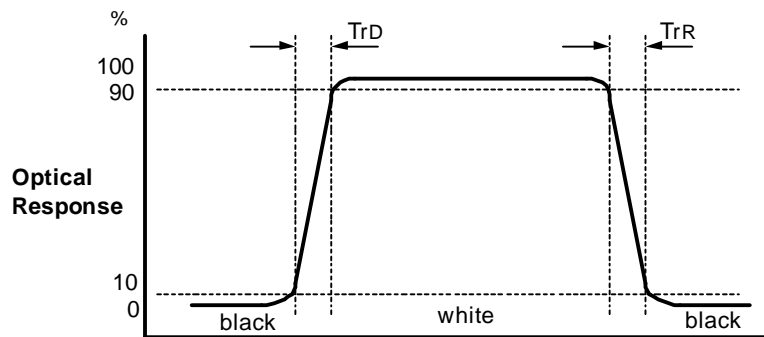

FIG. 3 Response Time
4. Response time is the time required for the display to transition from white to black(Rise Time,  $Tr_r$ ) and from black to white(Decay Time,  $Tr_D$ ). For additional information see FIG 3.